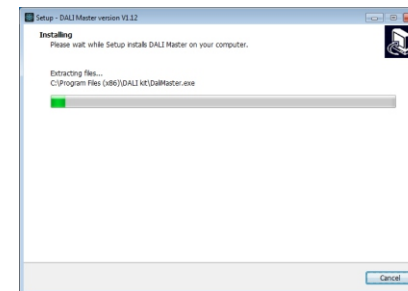

Figure 5 Starting Installation
Step 5: Starting installation as shown in **Figure 5**.